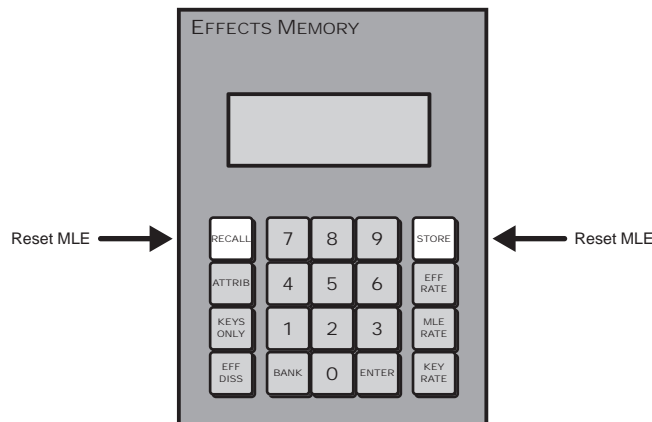

Figure 4.13 Press to Reset an individual MLE
- Press and hold both the **Recall** and **Store** buttons in the **Effects Memory Module** (**Figure 4.13**).